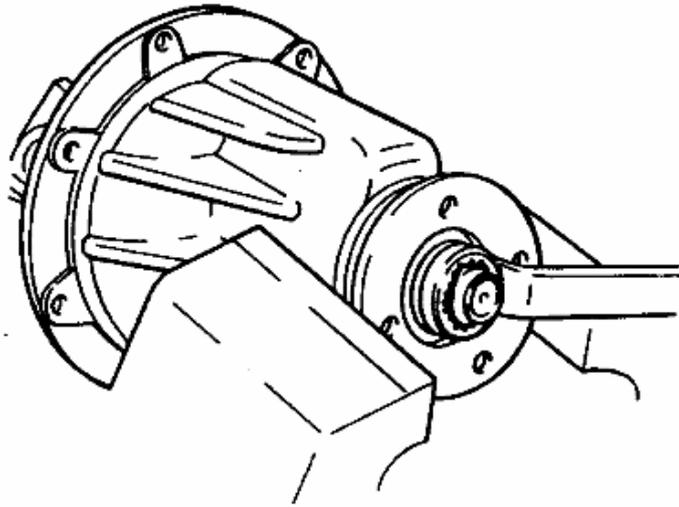

FIG 13-14
- (5) Replace whole rear axle housing if bend, deformation or crack on welding line found.
- (6) Check half axle seal lip for serious wear, deformation, aging and so on. Replace seal if necessary.
- (7) Check vent cover for damage. Replace if necessary.
- (8) Install reduction final drive on jig to make universal joint flange not rotating. Loosen drive gear lock nut by using special wrench. If the locked mode of the nut is by pressing, remove it by tool. (FIG.13-14)